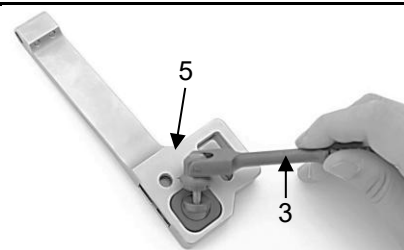

Fig. 15
First insert the drive lever (3) into the recess provided in the box (5) (Fig. 15).